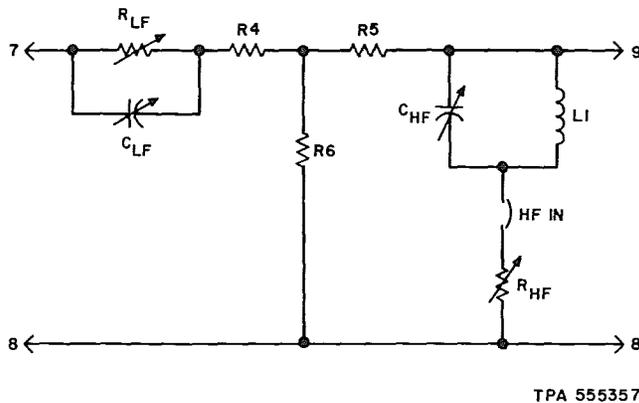

Fig. 4—359P Equalizer—General Circuit Configuration
3.01 The general circuit configuration of the 359P equalizer is illustrated in Fig. 4. Resistor R_{LF} and capacitor C_{LF} make up the series arm low-frequency equalizing section; inductor L_1 , capacitor C_{HF} , and resistor R_{HF} make up the shunt arm high-frequency section; and resistors R_4 , R_5 ,